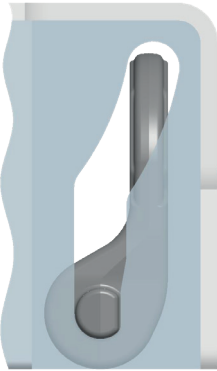

Fig. 15: Position bottom / transport position (storage position)
- After use, move the lashing ring into its storage position (cf. Fig. 15)!